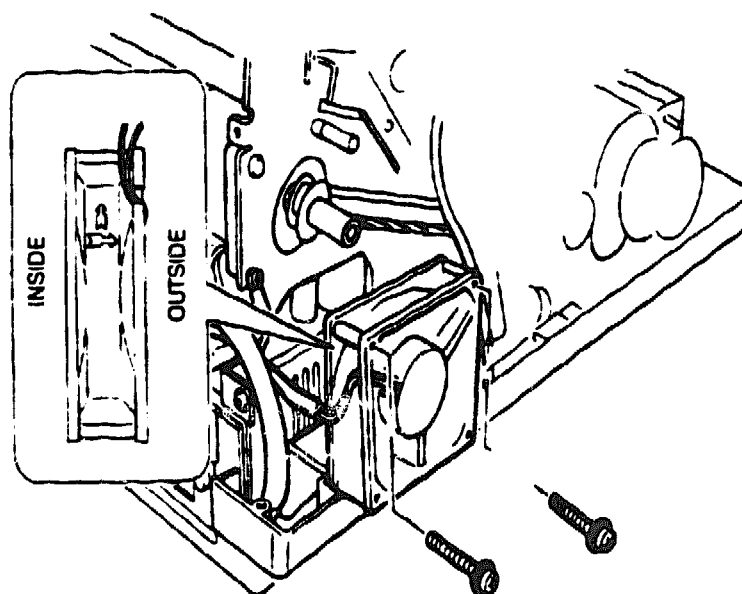

Figure 6-61 DC Fan (L) Installation
When reinstalling the DC fan (L), be sure to install it so air flows outward as shown in Figure 6-61.